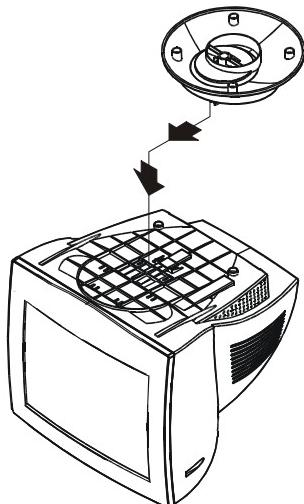

Figure 1: Installing and Removing the Swivel Base
- 1 Carefully turn the monitor upside down. (See Figure 1.)